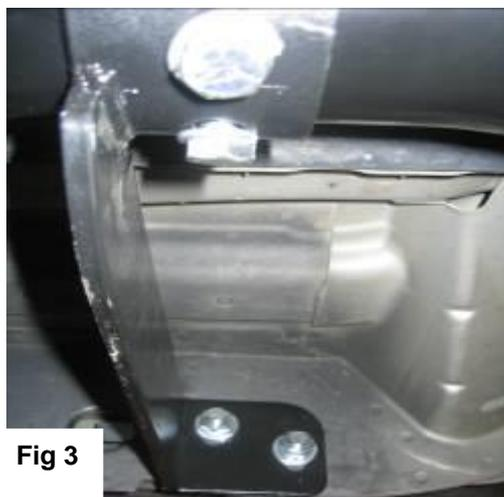
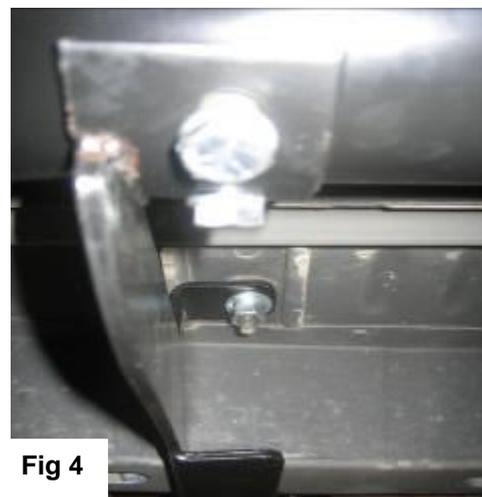

Fig 3
Fig 4
- Determine the driver's side front and rear brackets. Locate the mounting holes on the frame for the front and rear brackets (**refer to Fig1, Fig2**). For the rear mount location, insert (1) bolt plate through large hole on bottom of frame into the small hole on side of frame. For the front mount location, insert (2) bolt plates through large hole so that they protrude through smaller holes adjacent (**refer to Fig3, Fig4**).